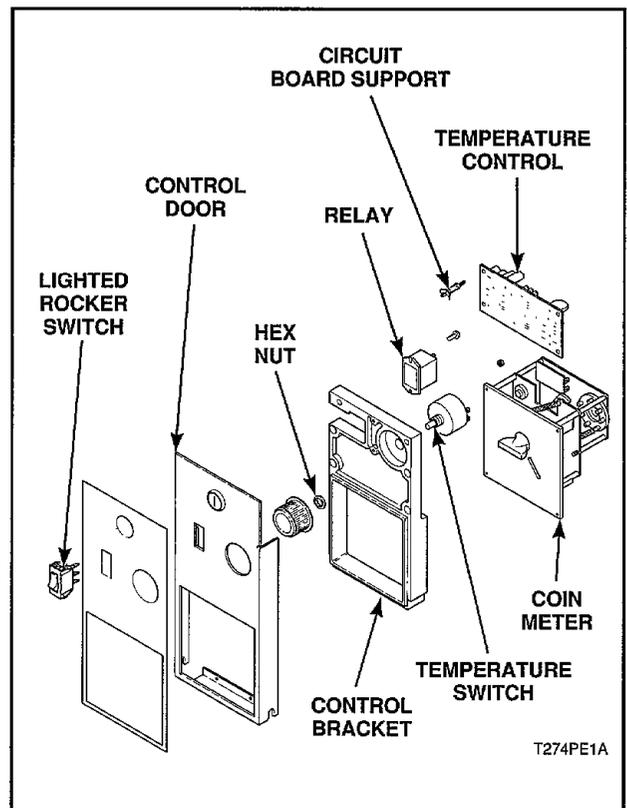

Figure 7
7. ELECTROMECHANICAL CONTROL (Figure 7)